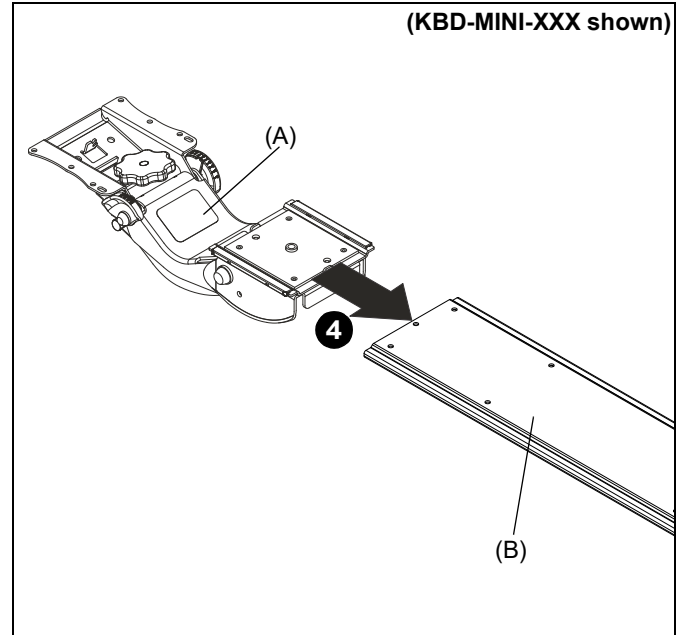

Figure 3
- Slide keyboard mechanism (A) into under-desk track (B). (See Figure 3)